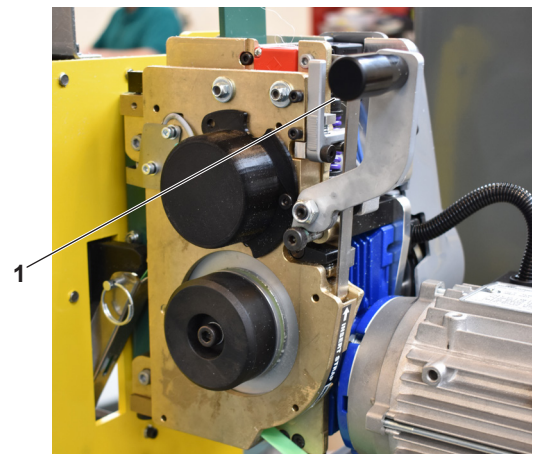

Figure 3-32: Pinch Lever
3. Raise Pinch Lever (**Figure 3-32: 1**) to securely contain the strap.